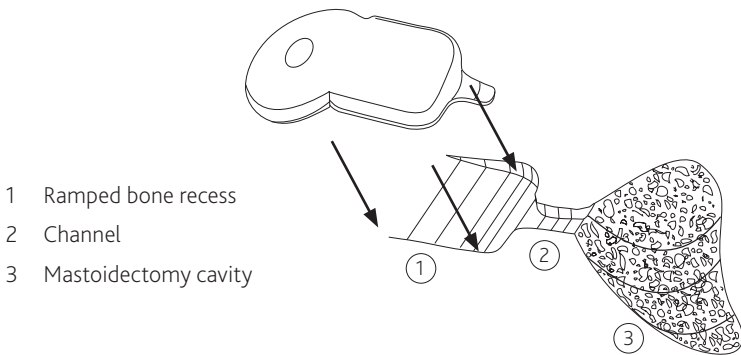

Figure 7: Ramped bone recess, electrode channel and mastoidectomy
5. Drill a channel to connect the bone recess and mastoid cavity – refer to *Figure 7*. The channel will help protect the electrode against trauma.